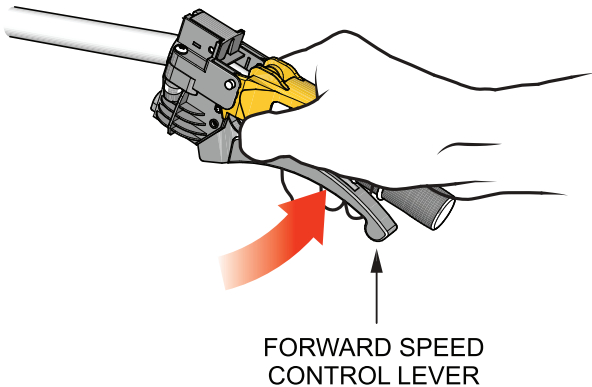

Figure 18. Forward Speed Control Lever (Petrol)
4. Slightly squeeze the **forward** speed control lever (Figure 18) until the Mini Dumper begins to move in a forward direction.